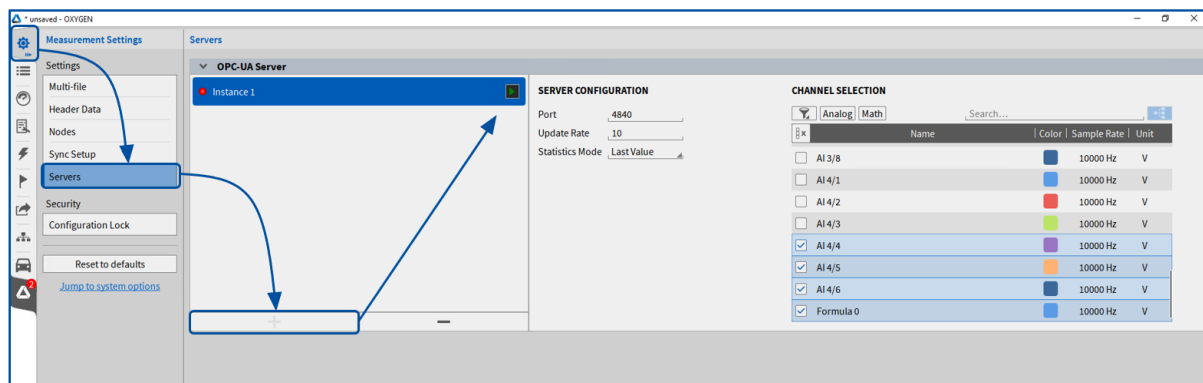

Fig. 4.1: Activate and set OPC UA Server in OXYGEN.
**Setup steps:** (See Fig. 4.1)